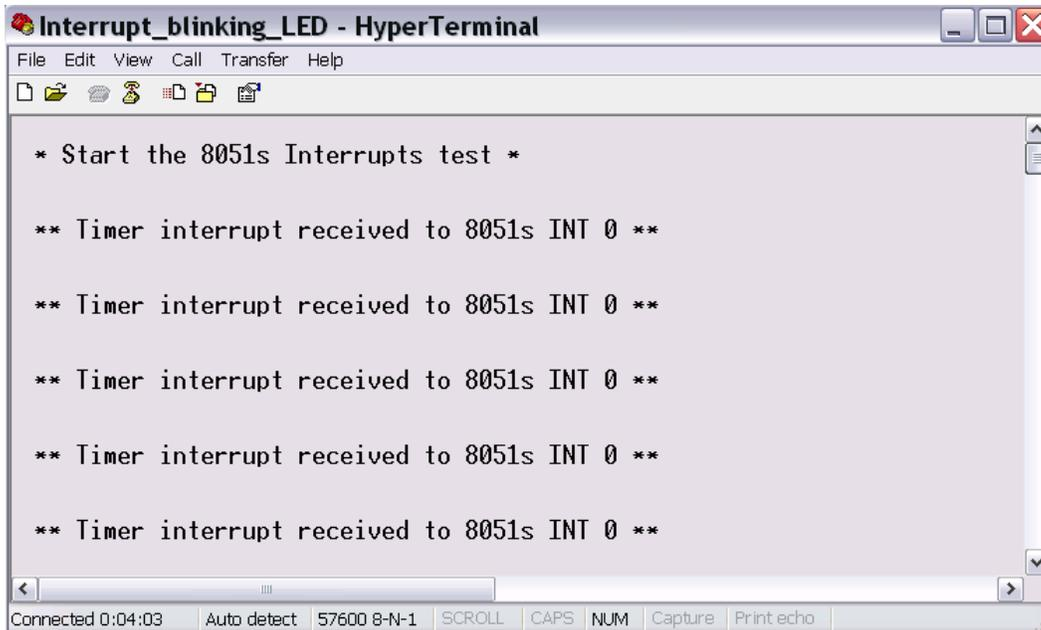

Figure 52 Application Running
- You can see the LED glowing at the specified time interval on the Fusion Advanced Development Kit. The HyperTerminal messages are displayed as shown in Figure 52.